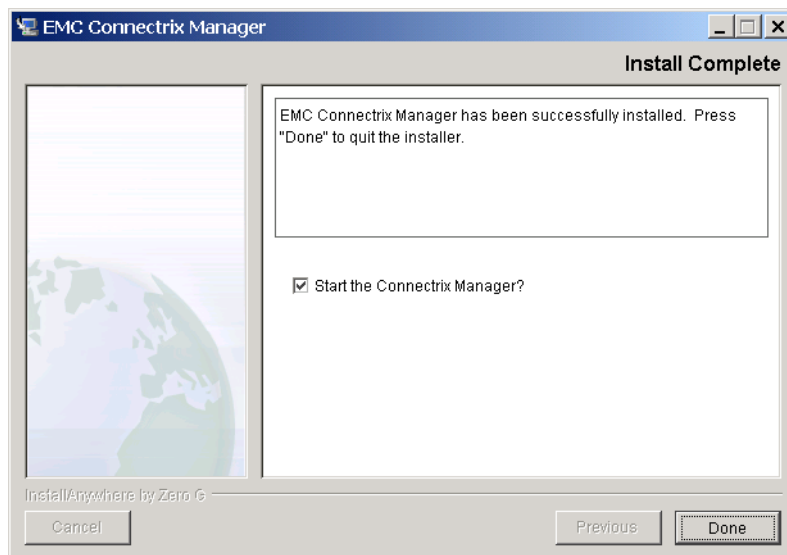

Figure A-25 Connectrix Manager Installer — End Screen
12. When complete, the window in Figure A-25 appears. Click **Done** to close the window.